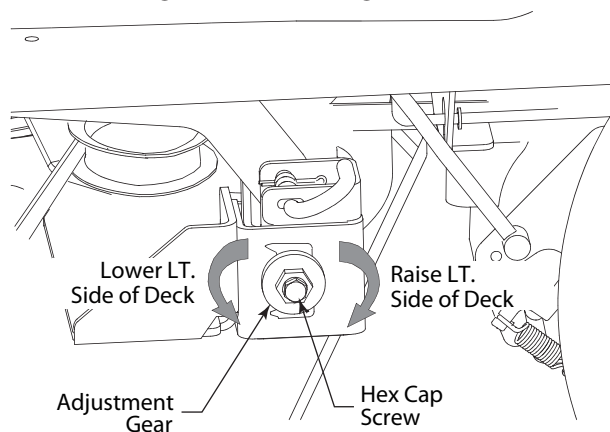

Figure 6-7
- Loosen, but do not remove, the hex cap screw on the left deck hanger bracket. See Figure 6-7.
- Level the deck by using a wrench to turn the adjustment gear (found immediately behind the hex cap screw just loosened) clockwise to raise the left side of the deck, or counterclockwise to lower the left side of the deck. See Figure 6-7.